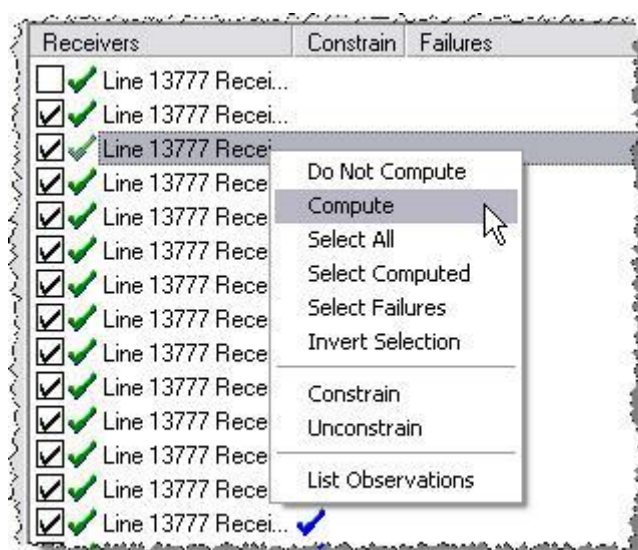

Figure 5-2: Receivers
For multi-component input files only one receiver for each station will appear in the list. Their status can be reset from the options in the popup menu, shown in Figure 5-2.
2. From the receiver list popup menu, as shown in Figure 5-2, select *Constrain*.
2. From the receiver list popup menu, as shown in Figure 5-2, select *List Observations*.